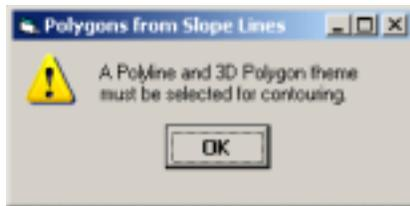
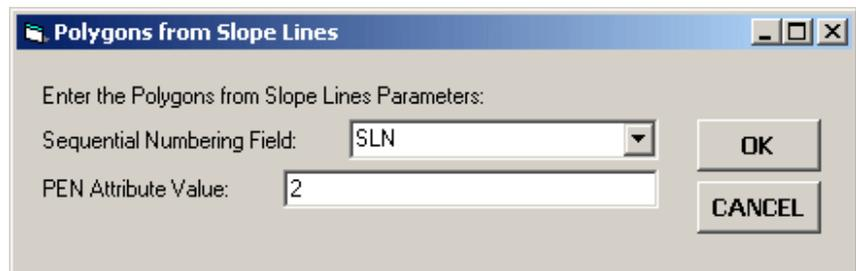

Figure 17
Figure 20
- 4 **Scroll** down in the {CEDRA-AVland-ContouringMenus} menu combo box, and **select** the [Polygons from Slope Lines] command. If the appropriate layers are not selected, one of the warning messages shown in Figures 17, 18 and 19 will be displayed. If the appropriate layers have been selected, the multi-input dialog box shown in Figure 20 will be displayed.